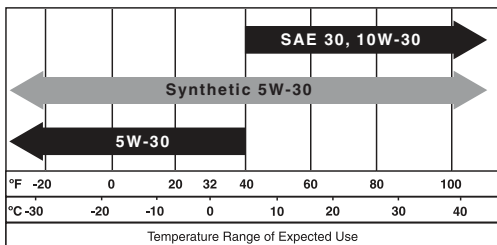

FIGURE 22: Recommended Oil Viscosity
SAE 10W-30 is recommended for general temperature use. Refer to Figure 22 for information on other viscosities that may be used. Other viscosities shown in chart may be used when average temperature in your area is within indicated range.
- Unused engine oil (SAE type indicated in Figure 22)
13. Pour new (unused) engine oil into oil fill hole using funnel. (See Figure 22 for recommended oil type). Do not overfill.